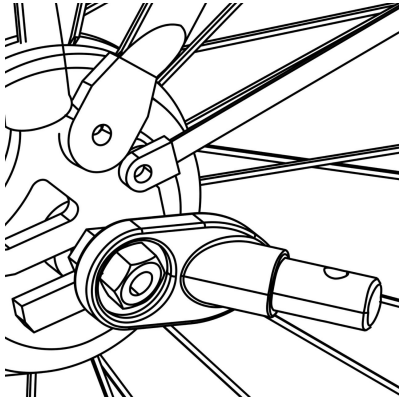

Figure 13
2. Nutted Axle: Unscrew the nut with washer from the left side of bike's rear axle. Install the hitch onto the axle and screw the nut back on with the washer(Figure 13).